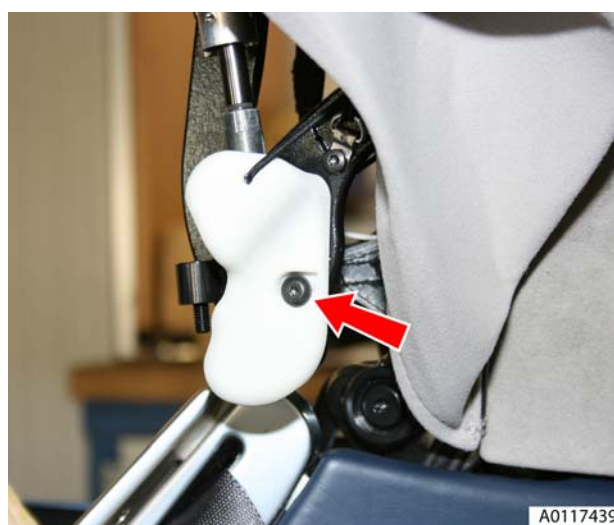

Figure 2
- Remove lower cover (screw x1) (see Figure 2).